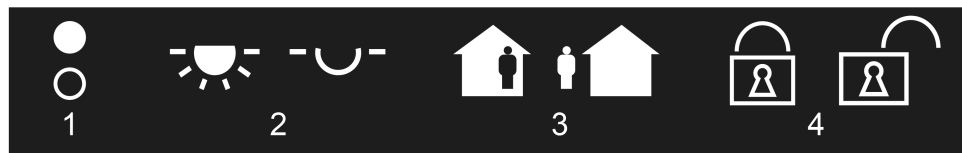

Figure 29: Status icon for the channel function "switching"
Similarly to the status text, a symbol (C) can be displayed in the lower display area. A parameter in the ETS defines which type of status icon is used in the display element (figure 29). This makes it possible to adapt the icon display to the activated function (e.g. switching of lighting). The configured status icon changes depending on the switching state thereby enabling the state of the controlled KNX channel to be read clearly (e.g. ☹️: Lighting OFF, ☺️: Lighting ON).